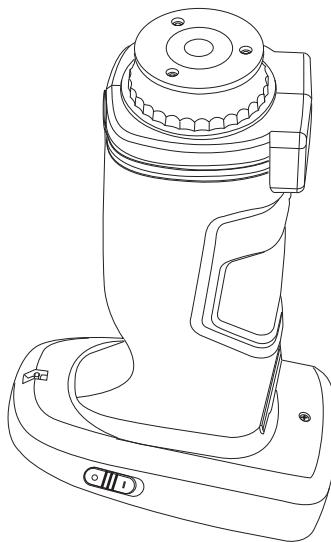

Figure 49 Measurement Aperture
Step 1: As shown in Figure 49, counterclockwise rotates the measurement aperture, and take off it, then install the new aperture clockwise. When there is a voice, it means that the measuring aperture and the integrating sphere button position are well matched, that is, the measuring aperture is installed
Step 2: As shown in Figure 49, if it is $\Phi 4$ mm aperture, it is required to switch to SAV; if it is $\Phi 8$ mm aperture, switch to MAV.